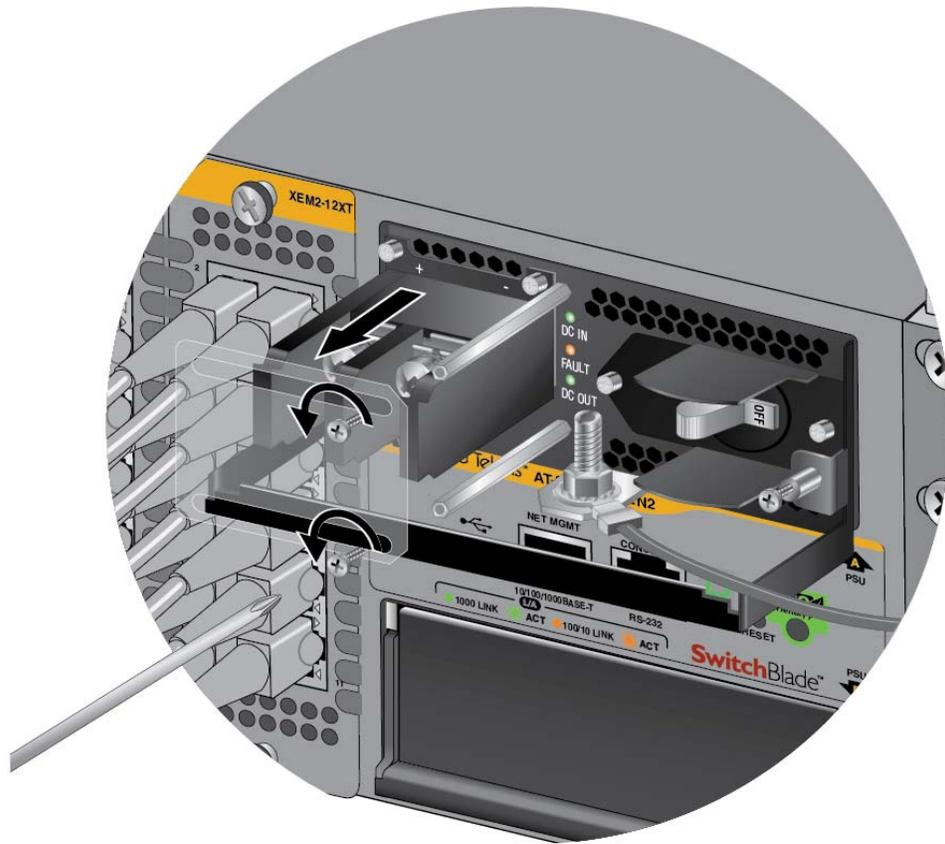

Figure 88. Removing the Plastic Cover
4. Using a #1 Phillips-head screwdriver, remove the two screws that secure the plastic cover over the positive and negative terminals and remove the plastic cover from the power supply, as shown in Figure 88 on page 140. You may need to lift the locking handle slightly to access the bottom screw.